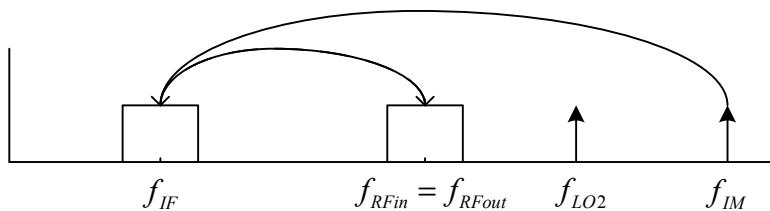

Figure 3.- Frequency conversions between local oscillator signal, RF signal and IF signal.
- Reference oscillator (RO): 10MHz
- Local oscillator (LO2): its frequency depends on the relations (Figure 3):